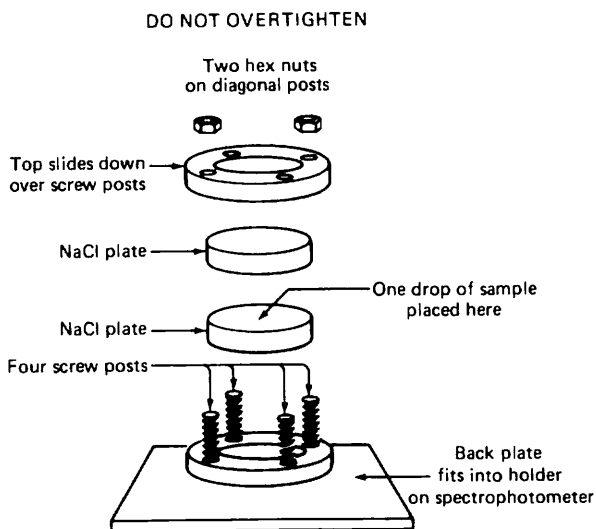

Fig. 152 IR salt plates and holder.
2. Put some of the *dry* sample (2–3 drops) on one plate, then cover it with another plate (Fig. 152). The sample should spread out to cover the entire plate. You *don't have to press*. If it doesn't cover well, try turning the top plate to spread the sample, or add more sample.